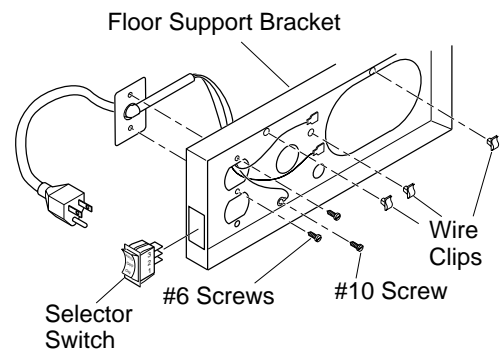

Figure 15 - Installing Power Cord, Mounting Plate, and Selector Switch
8. Mount selector switch to front flange of left floor support bracket. Align graphics on switch upright and push firmly to snap switch into rectangular hole. Push the selector switch to the off (middle) position (see Figure 15).
9. Install three plastic wire clips provided into floor support bracket (see Figure 15). Secure by pushing clips firmly into holes.
3. Route terminal end of power cord through large hole near top of left floor support bracket. Make sure to pass the cord from the outside (left side) towards the center of firebox (see Figure 15).
4. Using two #6 screws provided attach power cord mounting plate to the outside face of left floor support bracket. Drive screws from inside (right side) of floor support bracket. Attach the plate so that the power cord is directed towards rear of firebox (see Figure 15). Tighten screws firmly.
10. Attach green ground wire ring terminal to floor support bracket using #10 sheet metal grounding screw provided (see Figure 15). Tighten screw firmly.